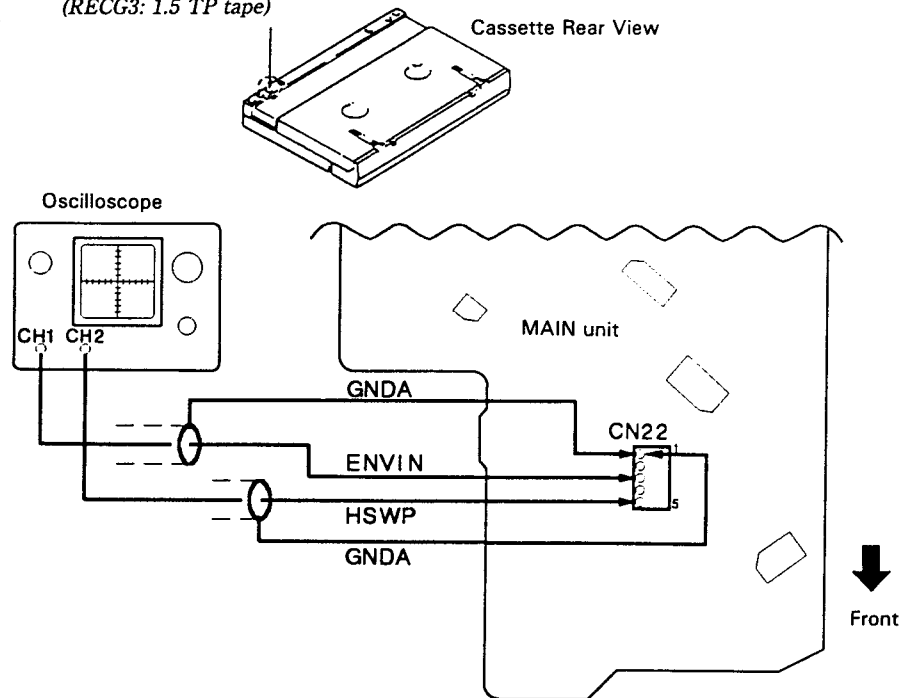

Fig. 2
4. Remove screw ② (7 screws) marked ▼ on the rear panel. (Refer to Fig. 2.)